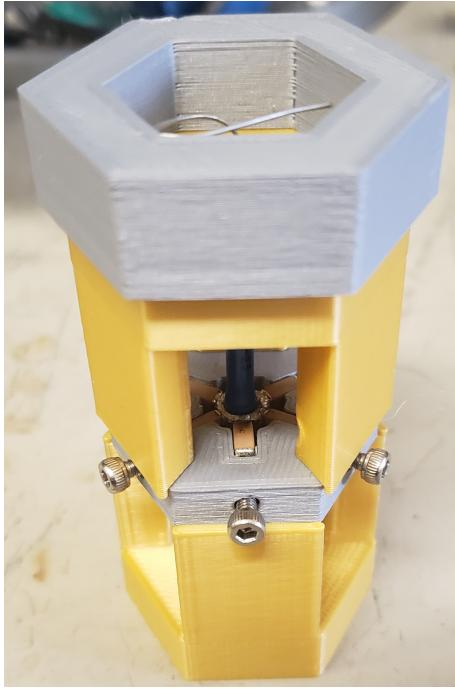

Figure 7: Input resistor in jig for attaching to capacitor array. Shown after soldering with lead bent into spring shape.
6. Bend the lead that goes into the connector into a spring to keep the resistor held in place when the jig is inverted. See figure 7.